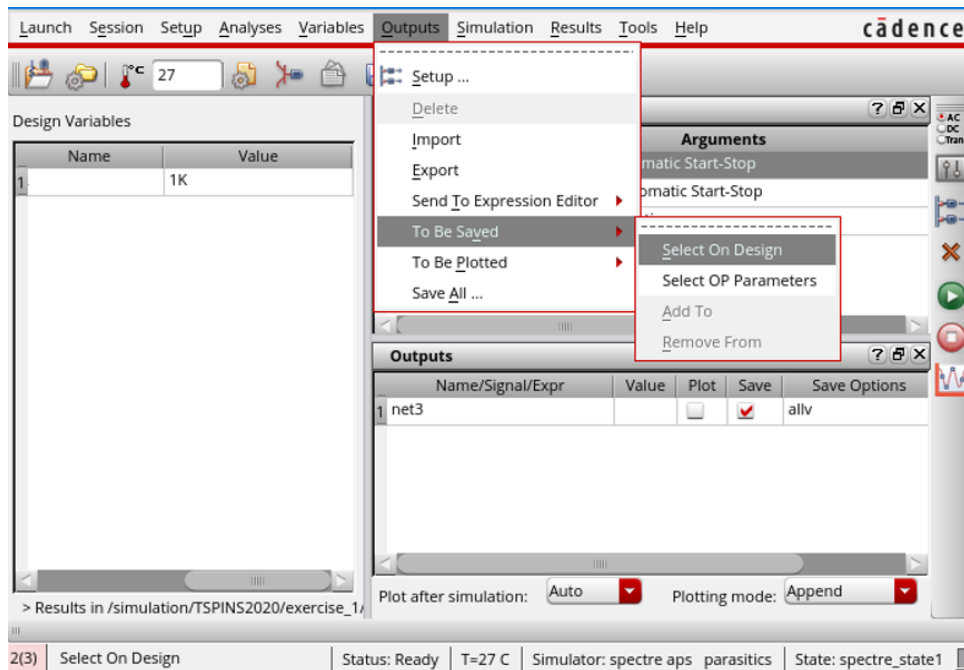

Fig. 3 Save DC Operating point
6. Select “**Outputs**”→“To be saved”→“Select On Design”, as shown in Fig.3, then return to your circuit to select the node you want to save the value. Press the “Esc” to terminate the selection process.